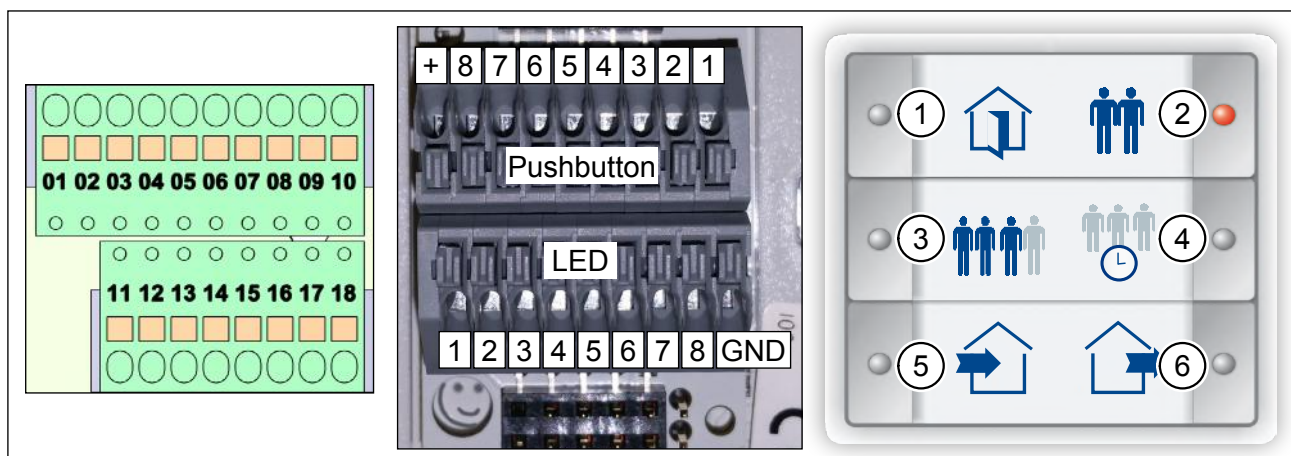

Fig. 5: Terminal blocks on M-WRG-S/Z-T, terminal blocks on InControl pushbutton sensor, M-WRG-S/Z-T insert sheet
- ▶ After wiring, place the insert sheet (Fig. 5) in the InControl pushbutton sensor.